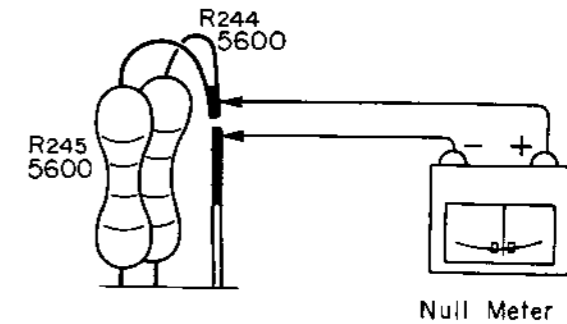

Fig. 4-2 Null Meter Connection Point
- (a) Unsolder the connection point of R244 and R245 and connect the null meter (center zero) or dc voltmeter across R244, and R245, and ground. See Fig. 4-2.